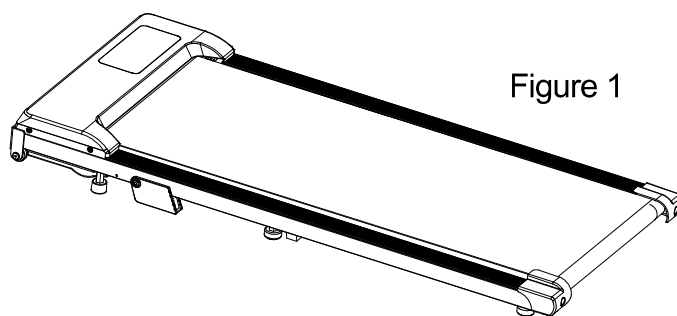

Figure 1
(2) Lift up the back of the machine and use your foot to push the slope adjuster lever in the direction of the arrow (Figure 1). This will flip it open.